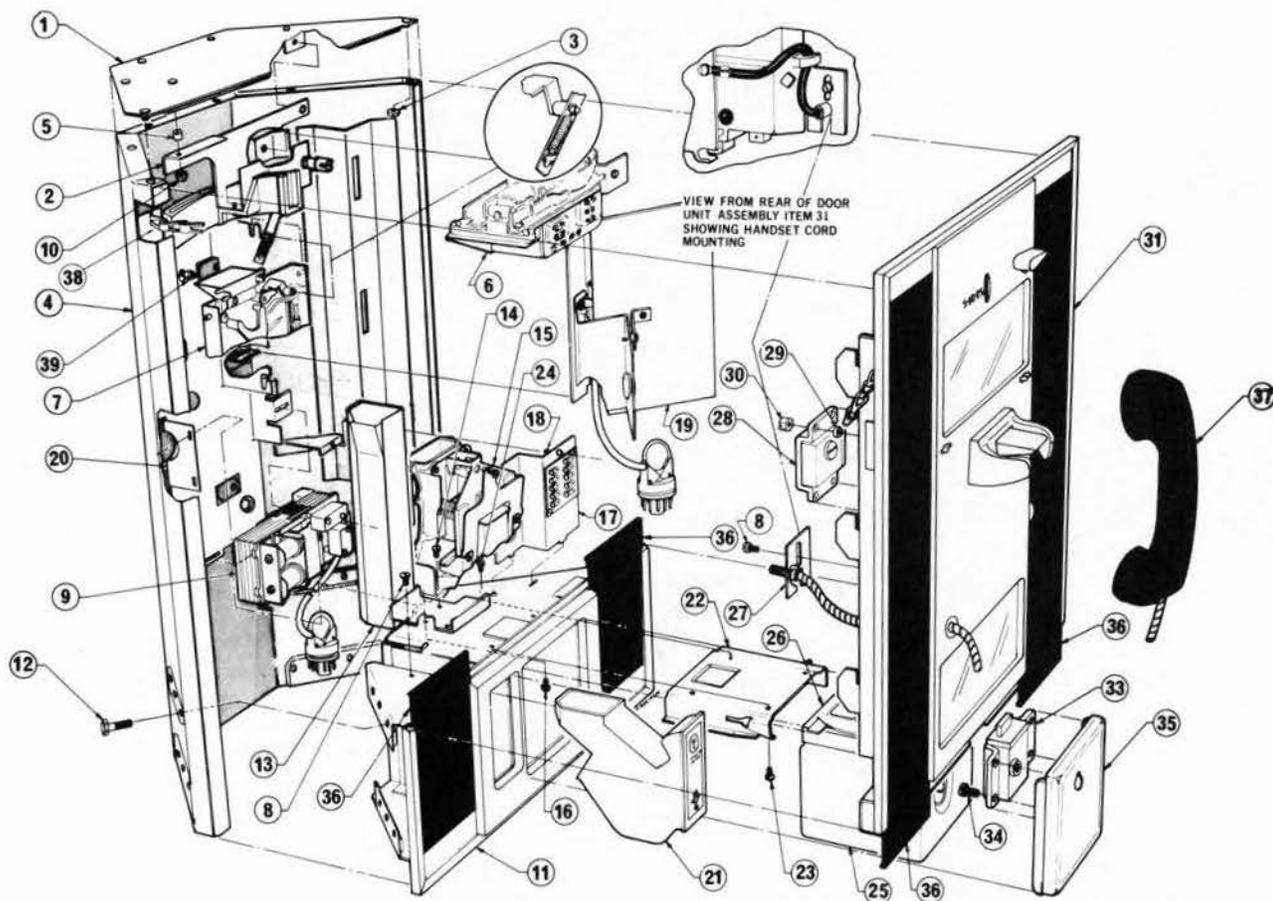

Fig. 10 - QSD300A and QSD2300A Coin Telephone Sets -
4.01 An exploded view of the QSD300A and QSD2300A coin telephone sets is shown in Fig. 10 with the parts keyed by numbers to